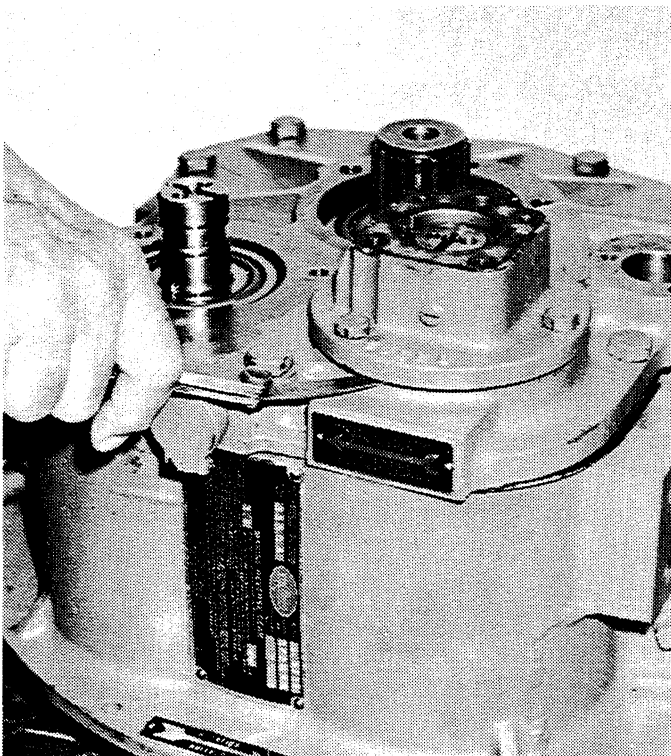

Figure 9-2. Measuring Shim Space Between Pump Mount and the Rear Cover.
3. Use a taper gauge to measure the space between the pump mount (39) and the front cover (14). See Figure 9-2.